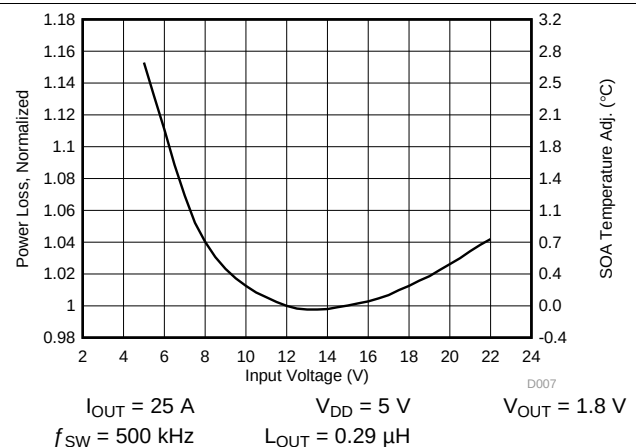

Figure 9. Normalized Power Loss vs Input Voltage
- Normalized Power Loss for input voltage ≈ 1.07 (Figure 9)
- SOA adjustment for input voltage $\approx 1.2^{\circ}\text{C}$ (Figure 9)